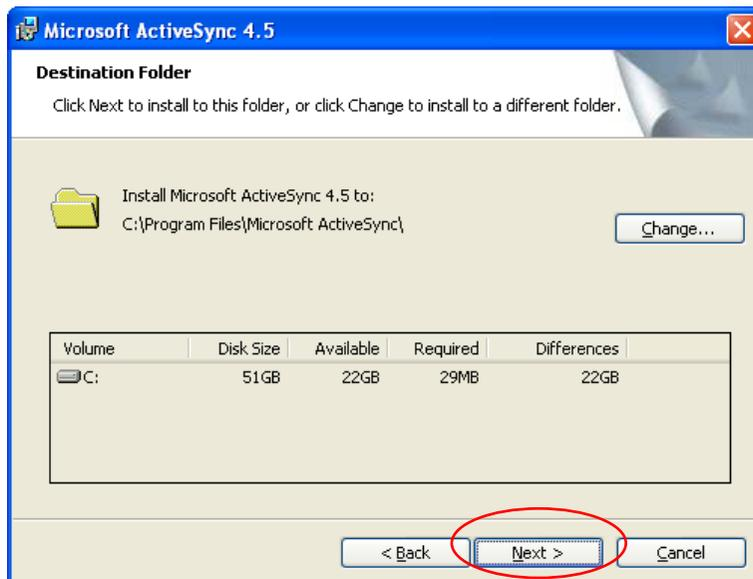

Figure 95:
9. When the following screen appears, accept the default settings and enter 'Next' (Figure 95).